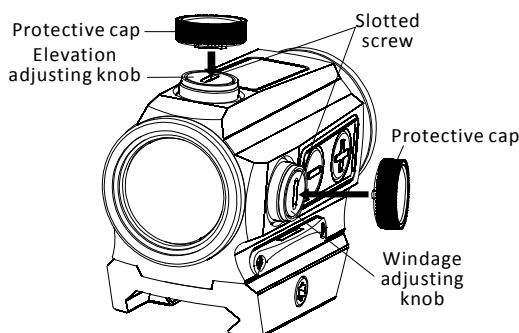

Fig 5
- On top of sight is the elevation adjusting knob, windage adjusting knob is on the right side (see Fig5). The sight has been factory adjusted for approximate zero.
- The built in screw driver tool on the protective cap can be used for zeroing adjustment (see Fig5). See label inside cap.